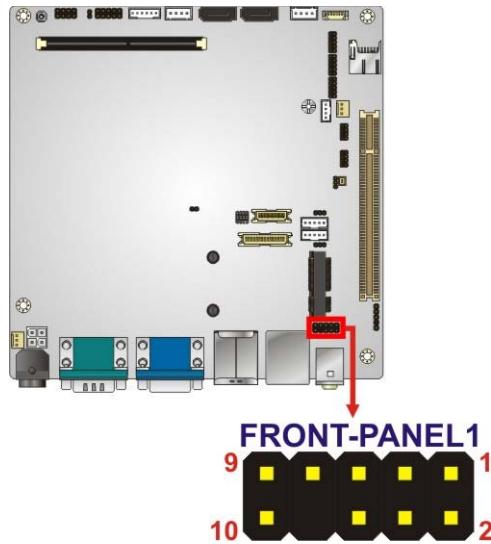

Figure 3-5: Front Audio Connector Location
**CN Location:** See **Figure 3-5**